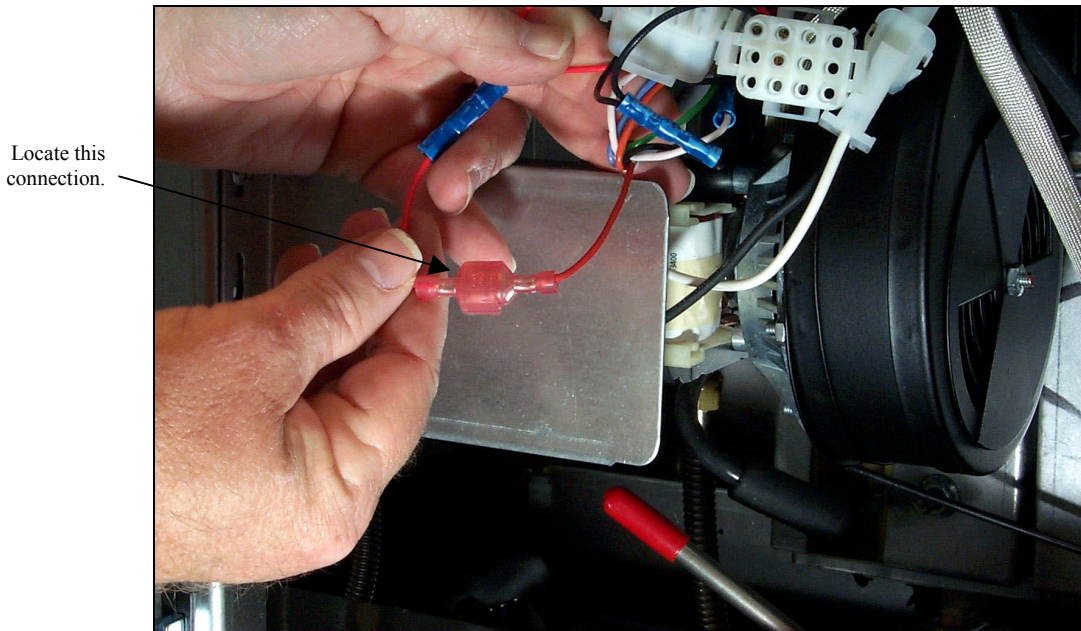

Figure 3
5. Reach up behind the component box and disconnect the wiring harness from connectors J1 and J3. Carefully pull the wiring down to gain access to the connection shown in Figure 3.